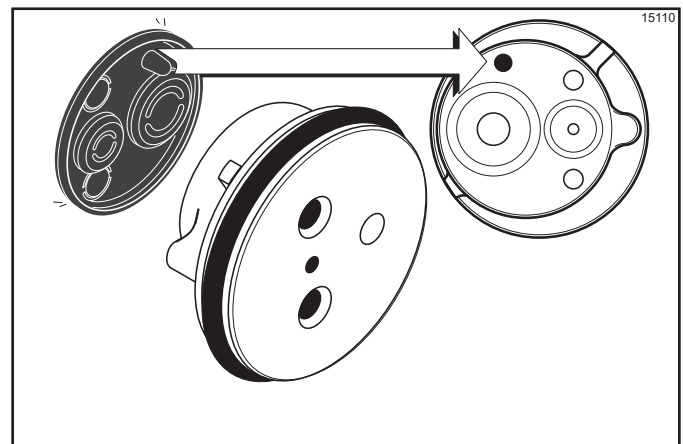

Figure 6-27
6. Slide the pump valve gasket into the holes on the cap. **Do not** lubricate the gasket. (See Figure 6-27.)